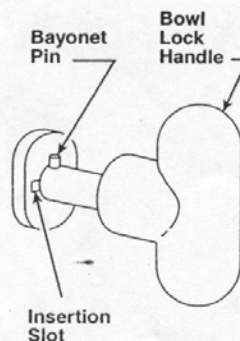

Figure 3
- 5.1.7 Check that the two bowl lock handles are disengaged from the bowl hub. Rotate bayonet pins 90° away from the insertion slots to prevent accidental pushing in of the bowl locks during the run (See Attachment I, Figure 3).
10.1.3 Figure 3 – Bowl Lock Handle